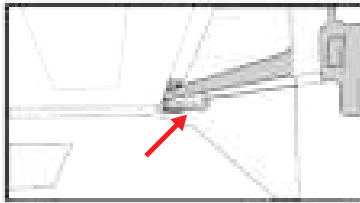

*Figure 2*
- Using care to not scratch the inside of the refrigerator, place the gaps located at the bottom rear corners of the drawer onto the small extension pieces located at the rear corners of both rails (see *Figure 2*, red arrow).